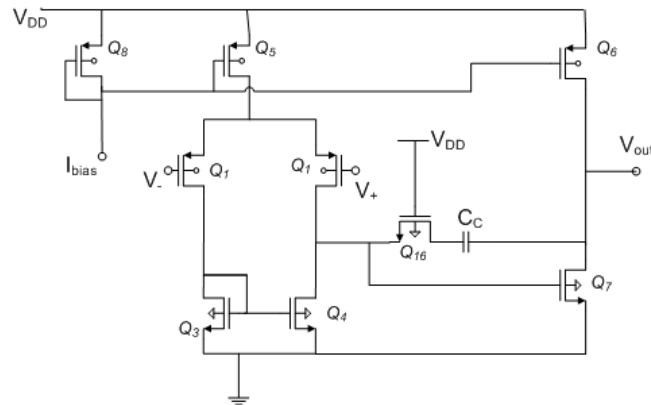

Figure 10: Twostage operational amplifier.
2. Draw a schematic of the twostage amplifier, as in fig. 10. Follow the design example and calculate all bias currents and device sizes. Make sure the following specifications are met:
1. Create a cell with the necessary views for the twostage amplifier you designed in the homework exercise (fig. 10). Pick the compensation capacitor,
Second, the transconductances are determined by bandwidth, gain and phase margin considerations. For a compensated opamp we can use Eq. 9.47 in the text book, combined with the schematic in fig. 10: